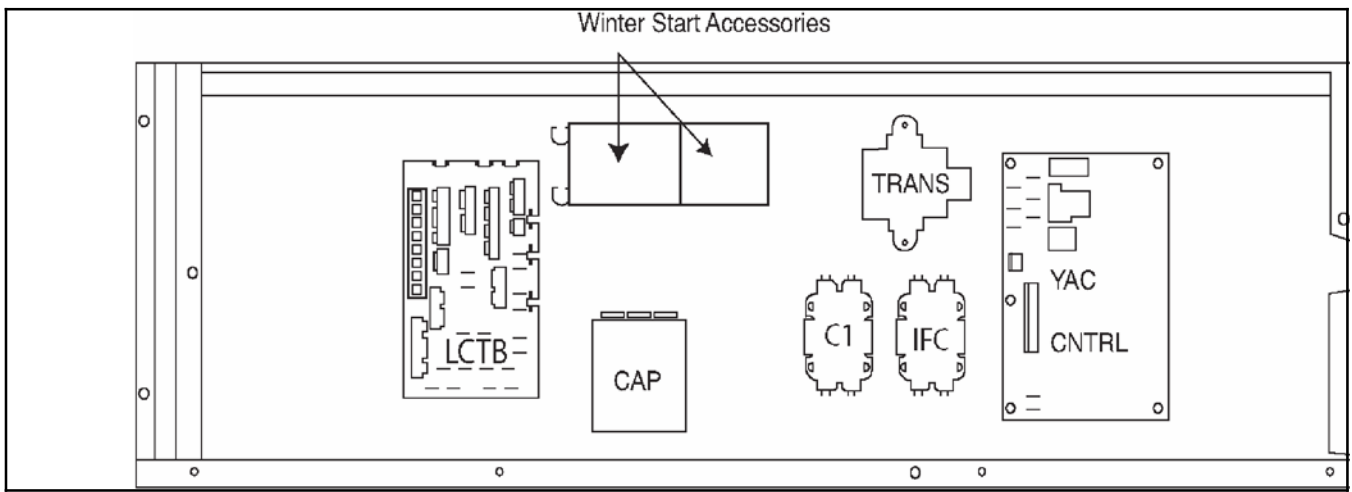

Fig. 12 - Winter Start Accessory Location for 7.5-10 Ton Rooftop Units with R-410A Refrigerant, Two Circuits and No Cycle Loc Control
3. Run field-supplied 18 AWG (American Wire Gauge) wires from quick-connect terminals in the device(s) to the unit as shown in Fig. 12.